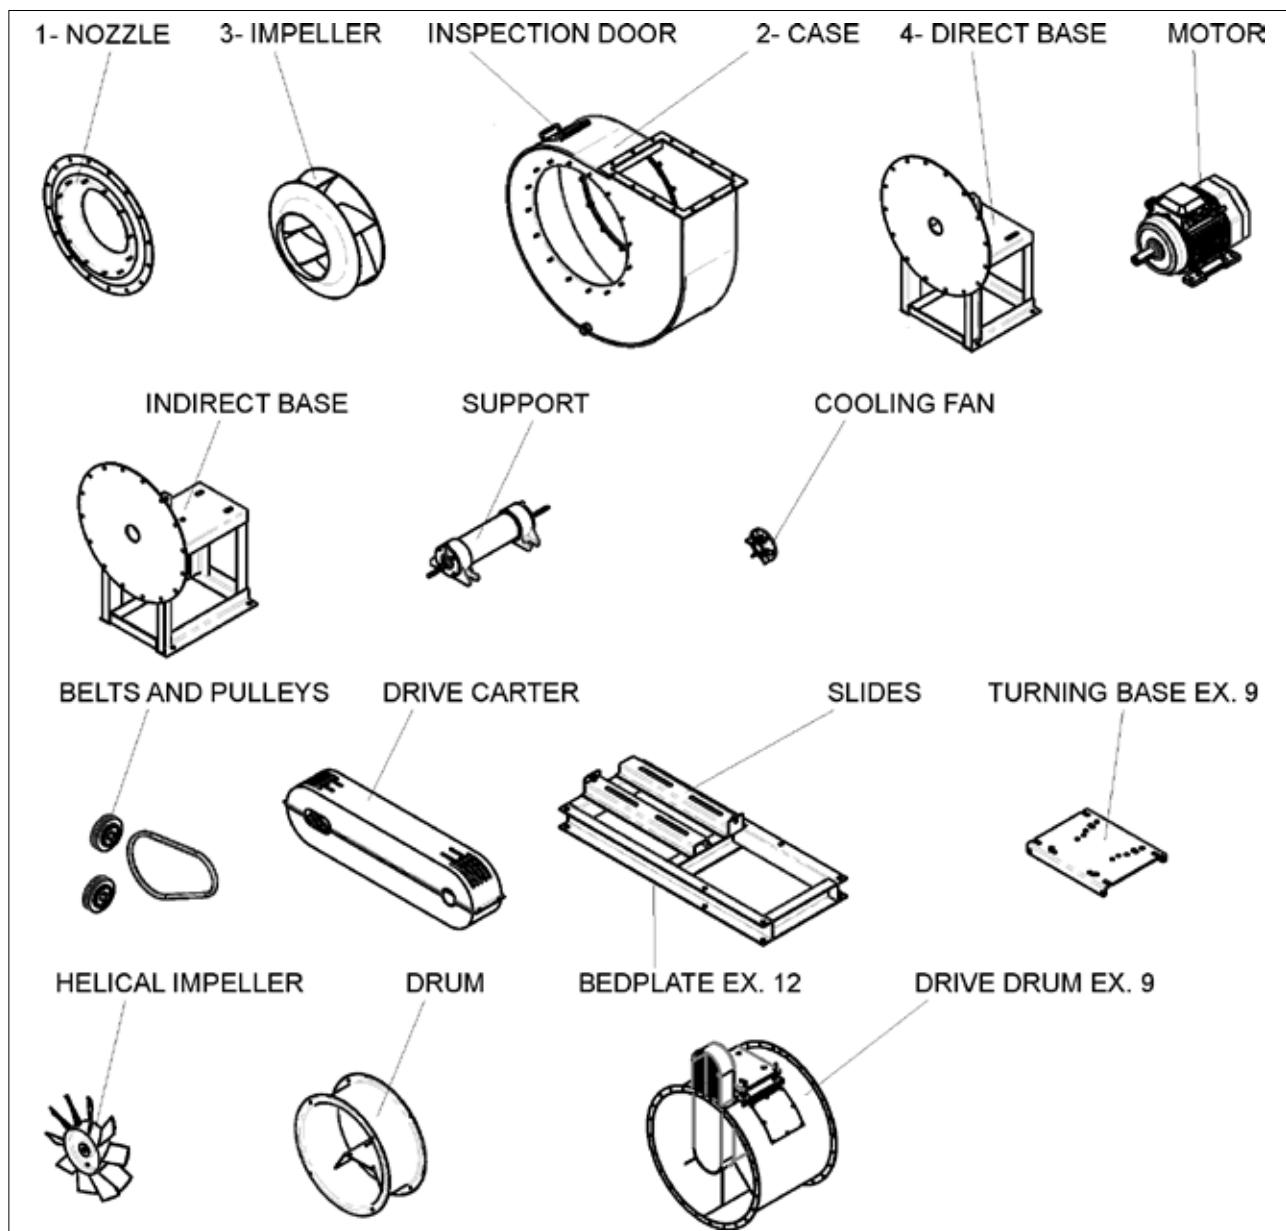

FIG. 12 (Centrifugal and axial fans)
4.3- Packaging (FIG. 12)
- 1) Nozzle (FIG. 12 - Ref. 1).
- 3) Case (with seal) (FIG. 12 - Ref. 2).
- 4) Impeller (FIG. 12 - Ref. 3).
- 6) Base (FIG. 12 - Ref. 4) and screw bag.